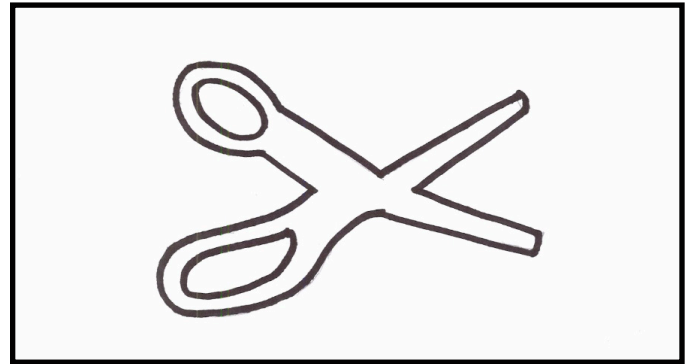

Figure 1.33 - Contour Image
2. What object is represented by the contour sketch in figure 1.33? How do you know?
Let's practice some contour sketching. Here is a general everyday object for you to try: Use a pencil to sketch the contour of the cup in figure 1.34. It should look similar to the sketch of the scissors in figure 1.33.